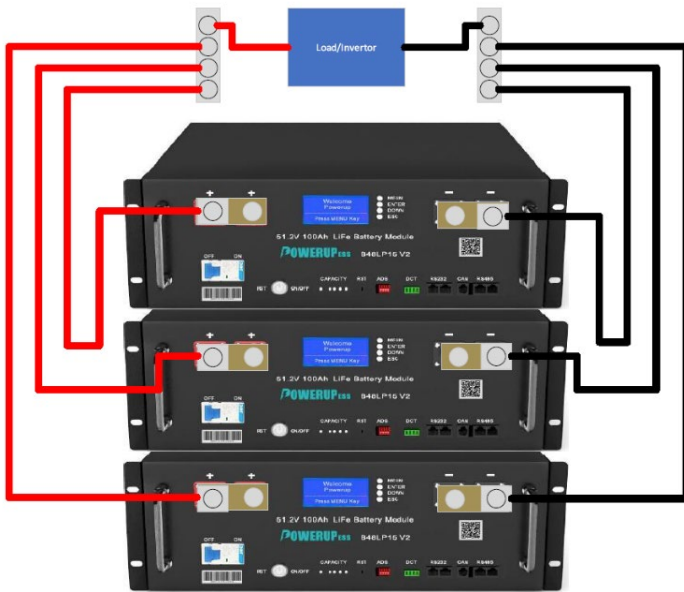

Figure 1
- Another way to connect the battery strings to load is using proper sized battery cables from each battery to powerup distribution block. BD4L500 or #BD4L500. see Figure 1.
- It's recommended to keep the inverter and equipment close to the battery modules to reduce the voltage drop in the battery cables to equipment. see fig 1 and 2.